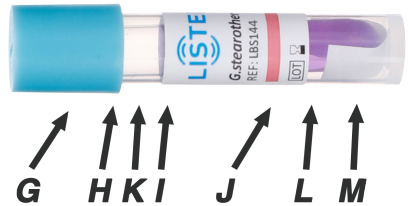

Fig. 2
The biological indicator (Fig.2) consists of a thermoplastic container containing a strip of paper on which the bacterial spores are inoculated and a small glass capsule containing the culture medium.
6. Check for discoloration of the chemical indicator strip (Fig. 2)
7. Smash the glass capsule (Fig. 2) of the biological indicator inside thermoplastic container by squeezing it with pliers or against the edge of the table top. This should be done just before inserting the indicator into the incubator. the indicator should be placed in the incubator no later than one hour after sterilization.